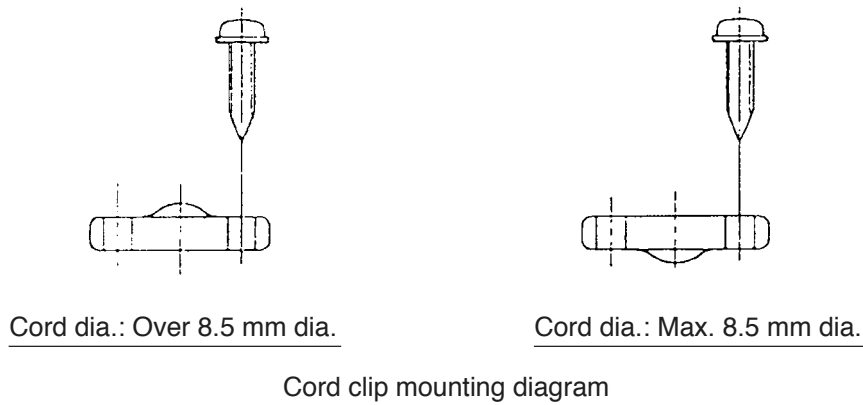

Fig. 13
(6) Mount the cord clip as shown in Fig. 13 being careful of the direction.